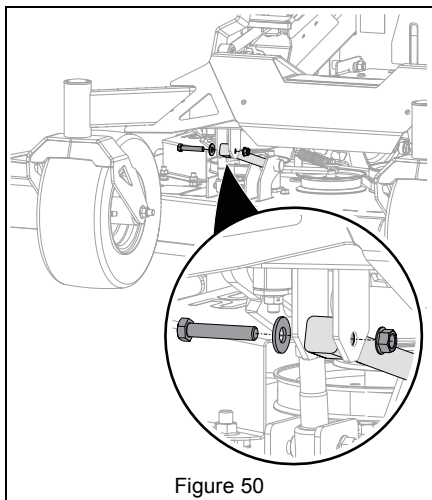

Figure 50
6. Remove hardware retaining drag links to frame. See Figure 50.